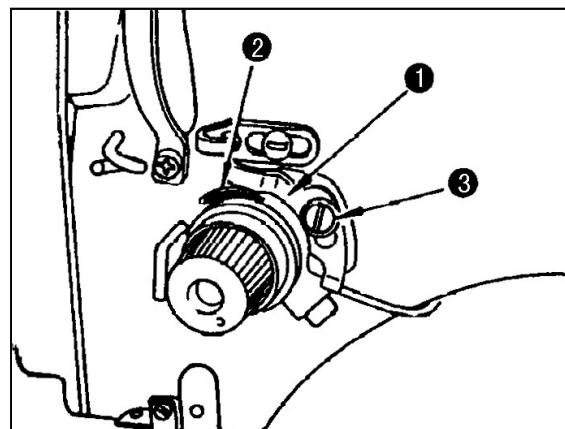

Fig. 34
Check the correct setting by observing indicator I0 in the testing parameters. When you start to move the spring (2) in the direction of the arrow, the indicator should turn red, after touching the plate (1), the indicator should turn green. If this is not the case, it is necessary to make the correct setting by the screw (3) and plate (2). See fig. 34